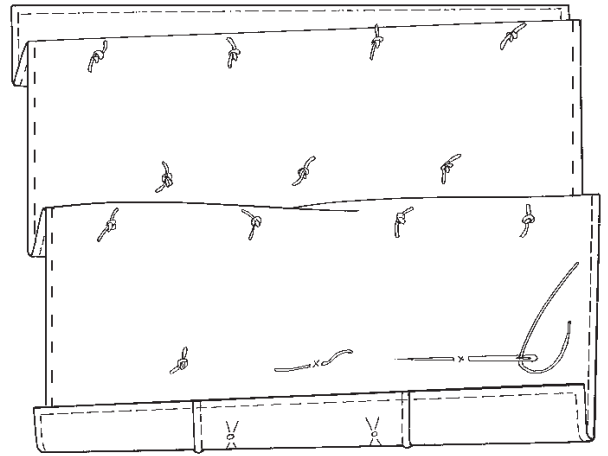

Fig. 17-5
9. Thread a large needle with a single strand of yarn. Working from the quilt front, repeat the tufting process as described in Step 5. Stitch through all layers (except pocket layers and strap ends), leaving tails at the beginning and ending points of each stitch. Tie the tails in a double knot. (Fig. 17-5)